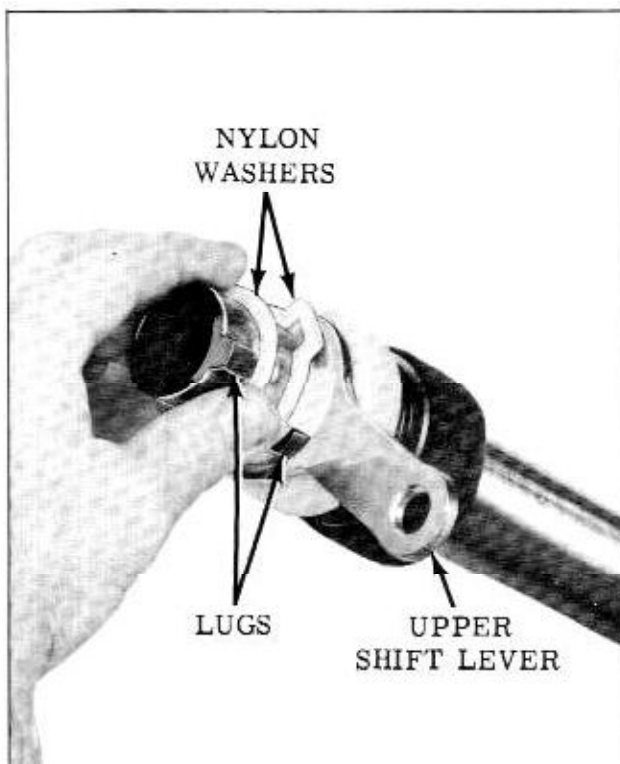

Fig. 4-19 Removing Upper Shaft Lever
19. Push the nylon bearing onto the shift tube far enough to clear the second lug and rotate the bearing so that the bearing holds the spring in compression. (Fig. 4-19)